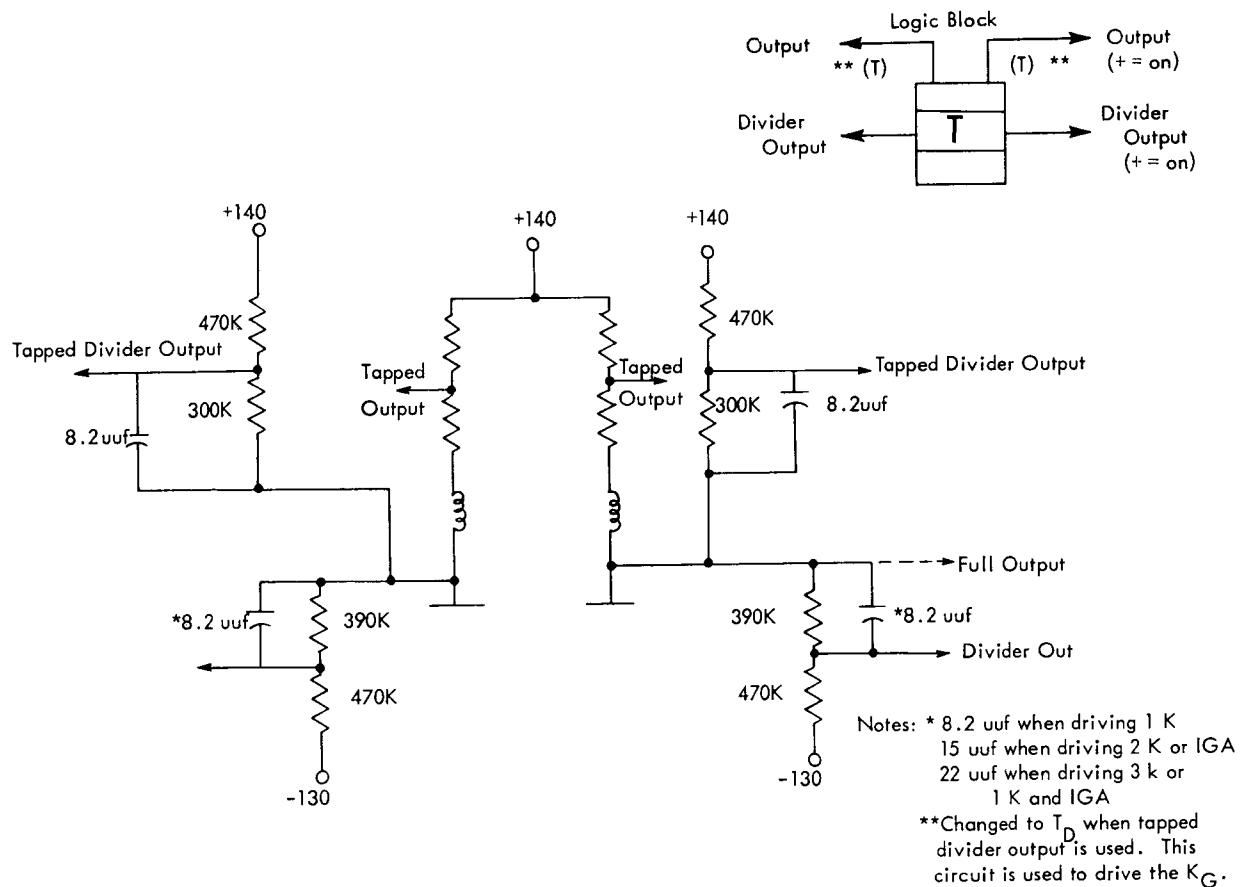

FIGURE A14. TRIGGER OUTPUTS
There are four types of outputs from a trigger (Figure A14). The full plate swing of either plate may be used, or the plate resistor may be tapped when a smaller swing is needed. Generally, this tapped output is used for feeding binary inputs of other triggers. A standard signal level may be obtained from a voltage divider connected to either plate. If the divider is not used, it is not wired into the circuit. When driving a plate-level cathode-follower KG (702-705 components only), a special divider from the trigger plate to +140 volts is used. The output of this tapped divider (TD) is about the same as the tapped plate.